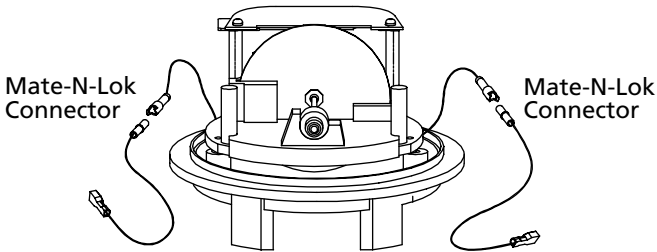

Figure 43. Attaching Power Cables to an AMR Ready Meter
4. If your meter is AMR Ready, attach the power cables to the meter using the Mate-N-Lok connectors. See Figure 43.